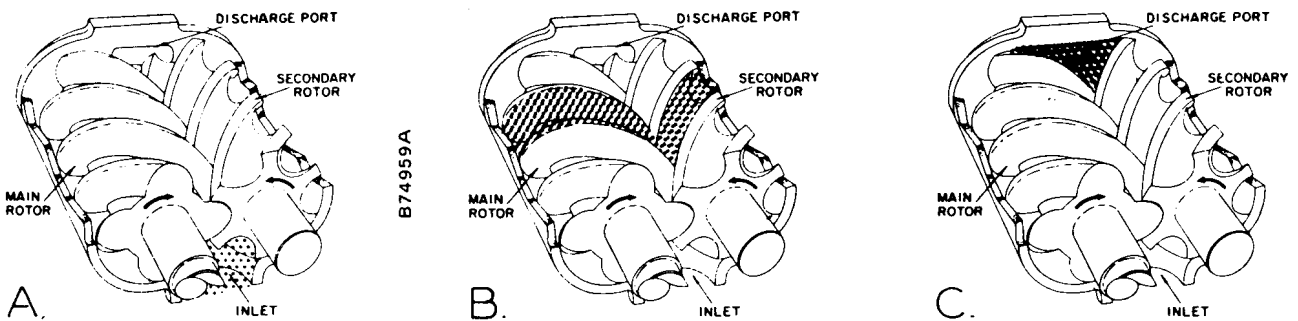

Figure 1-1 – COMPRESSION CYCLE
COMPRESSION PRINCIPLE (Figure 1-1) - Compression is accomplished by the main and secondary rotors synchronously meshing in a one-piece cylinder. The main rotor has four (4) helical lobes 90° apart. The secondary rotor has six (6) matching helical grooves 60° apart to allow meshing with main rotor lobes.
The air inlet port is located on top of the compressor cylinder near the drive shaft end. The discharge port is near the bottom at the opposite end of the compressor cylinder. *Figure 1-1 is an inverted view to show inlet and discharge ports.* The compression cycle begins as rotors unmesh at the inlet port and air is drawn into the cavity between the main rotor lobes and secondary rotor grooves (A). When the rotors pass the inlet port cutoff, air is trapped in the interlobe cavity and flows axially with the meshing rotors (B). As meshing continues, more of the main rotor lobe enters the secondary rotor groove, normal volume is reduced and pressure increases.